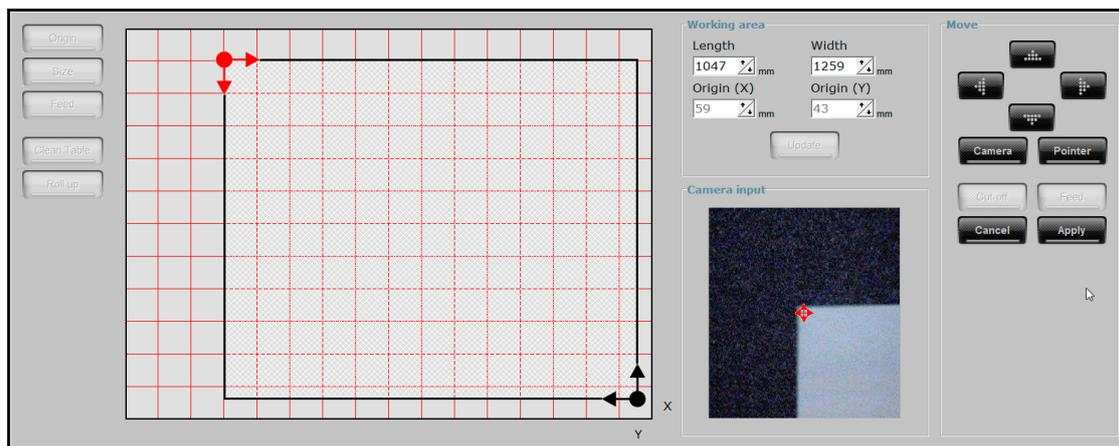

FIG 1-14
6. Insert a media core holder in each end of the media roll. Loosen the core holders with the black knob on the side. Figure 1-14 shows a loosened ❶ core holder and an expanded ❷ core holder.